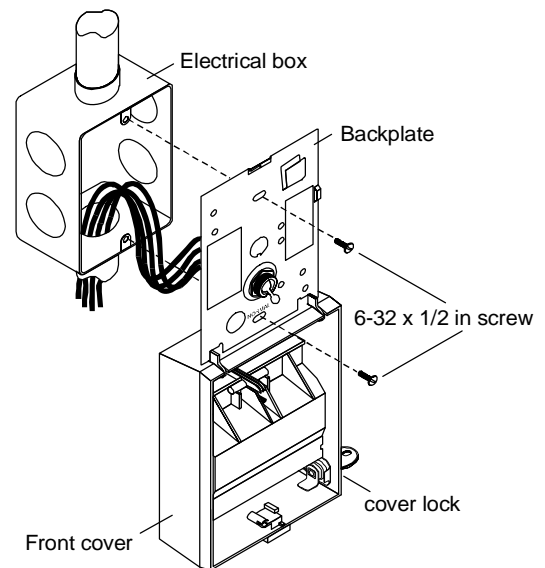

Figure 1: Mounting the release station
1. Insert the key into the cover lock and rotate the key to open the release station (Figure 1).